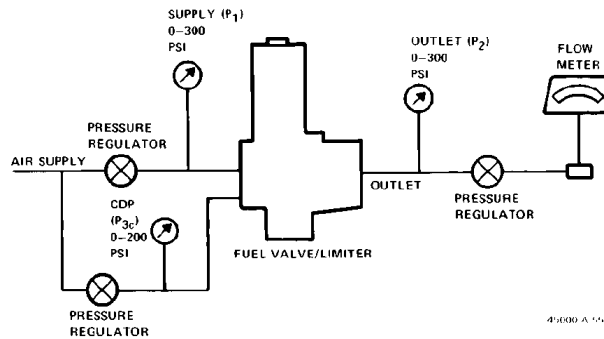

Figure 4-11. Test Hookup for Gaseous Fuel Valve/Limiter
1. Connect the fuel valve/limiter to a test stand as shown in Figure 4-11.